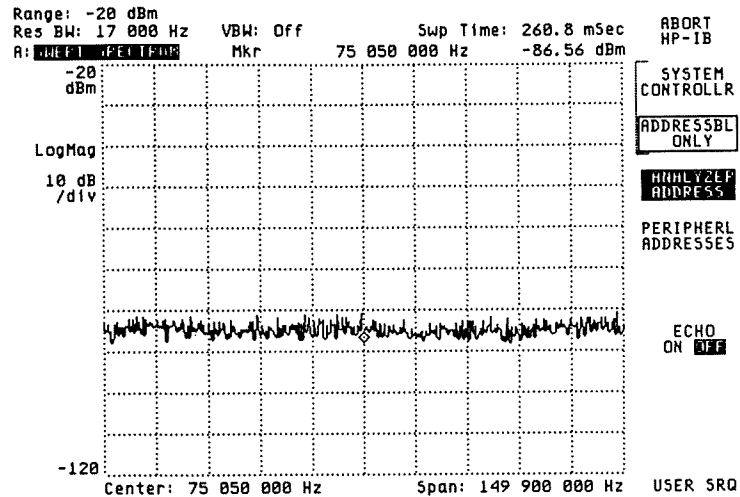

Figure 1-4. HP 3588A Screen After Pressing
4. Verify that the analyzer's address is set to 19. The current address setting is displayed when you press the [**ANALYZER ADDRESS**] softkey (see figure 1-4). You can change the address by pressing [**ANALYZER ADDRESS**], then using the numeric keypad and the [**ENTER**] softkey to enter a new value. However, the instructions in the verification procedure assume that the analyzer address is set to 19.